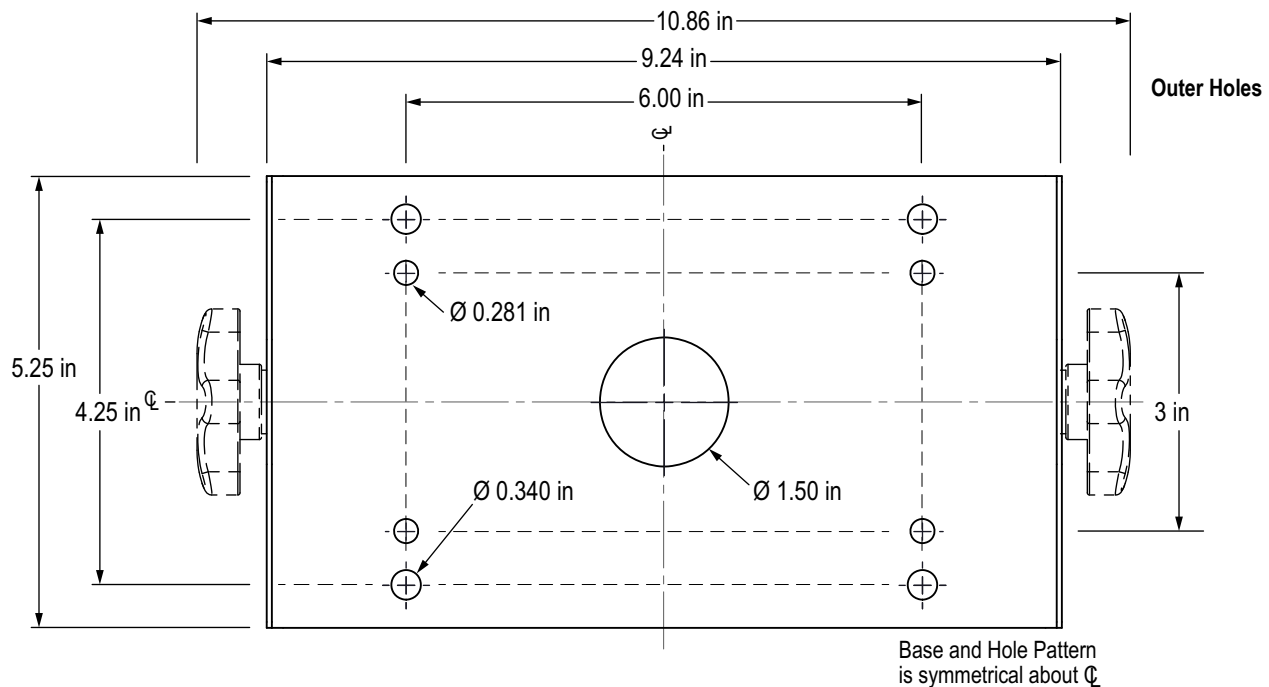

Figure 2-4. Universal Tilt Stand Hole Pattern Dimensions
1. Using the tilt stand as a template, mark the screw locations. See Figure 2-4 on page 23 for dimensions.